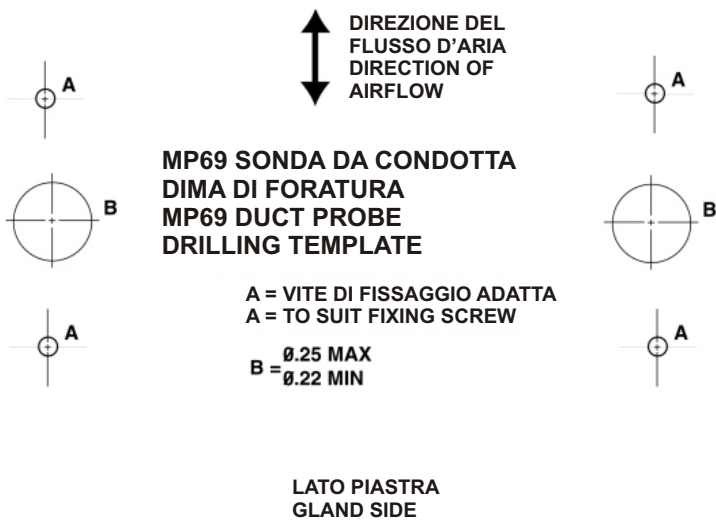

FIG. 1 Template (not to scale)
a) Attach the drilling template supplied with the Duct Probe Unit (see Fig. 1) onto the ducting or gland plate with the two probe holes 'B' lined up across the airflow.
b) Drill out the mounting holes and probe holes as shown in Figs. 1 and 2.